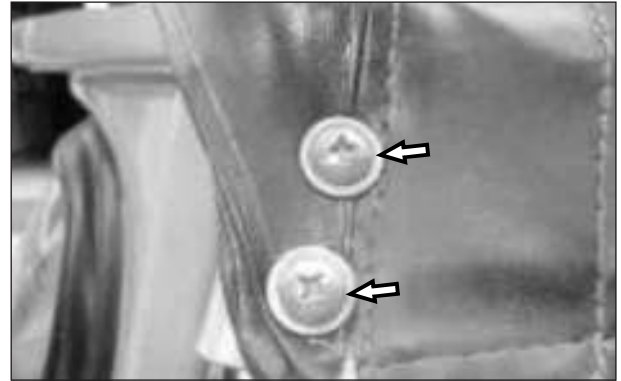

Fig. 9.20
- Assemble and tighten the CRPH screw (M6x16 - 2 nos.) along with punched washer (2 nos.) and hexagonal nut (M6 - 2 nos.) as shown in the soft top canvas small piece at wind shield assembly bracket soft top frame LH. (Fig. 9.20)